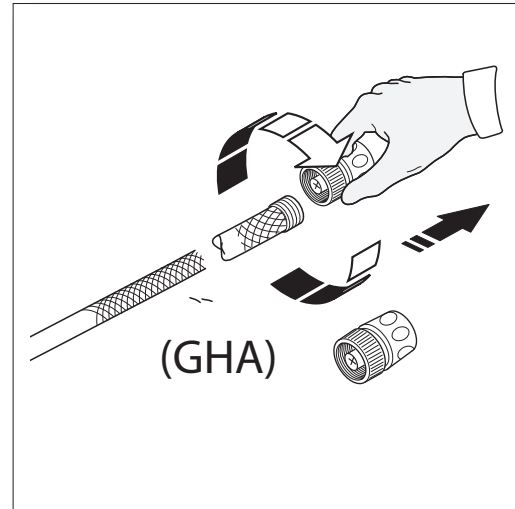

Fig. 14
- Attach the garden hose adapter to the end of the garden hose (**Fig. 14**).